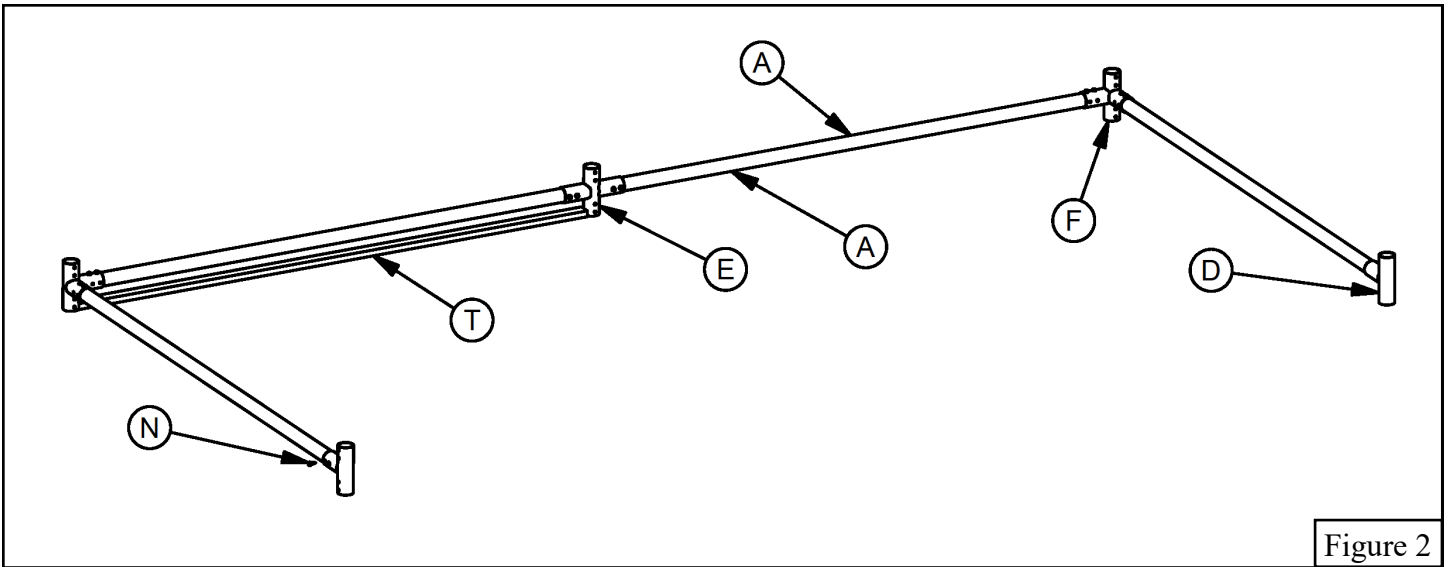

Figure 2
- Using a cordless power drill and the 3/8" *Magnetic Hex Drive Socket* (O), install one #14 x 3/4" *Self-Drilling/Threading Hex Screw* (N) into each connection point using the predrilled holes in the connectors as a pilot.
- Recheck the spacing before adding a second #14 x 3/4" *Self-drilling/Threading Hex Screw* (N) to each connection point to complete the top rail subassembly.
- 4 each 68" *Horizontal Rails* (A)
- 2 each *Short "T" Connectors* (D)
- 2 each 90° *"X" Connector* (F)
- 1 each *"X" Connector* (E)
- #14 x 3/4" *Self-Drilling/Threading Hex Screws* (N)
- 3/8" *Hex Magnetic Screw Drive Socket* (O)
- Position all bottom rail components (A), (D), (E), (F) on a flat solid surface. Use the 68.25" *Long Assembly Spacers* (T) to properly locate the 68" *Horizontal Rails* (A). Insert the 68" *Horizontal Rails* (A) into the various *Connectors* (D-F) approximately equal distance on both ends. Use the 68.25" *Long Assembly Spacers* (T) to confirm that the distance between the 68" *Horizontal Rails* (A) is 68.25". See Figure 2.
- Using a cordless power drill and the 3/8" *Magnetic Hex Drive Socket* (O) install one #14 x 3/4" *Self-Drilling/Threading Hex Screw* (N) into each connecting point using the predrilled holes in the connectors as a pilot.